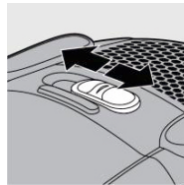

Figure 13
- the electronic suction power regulator on the vacuum cleaner (Figure 13).